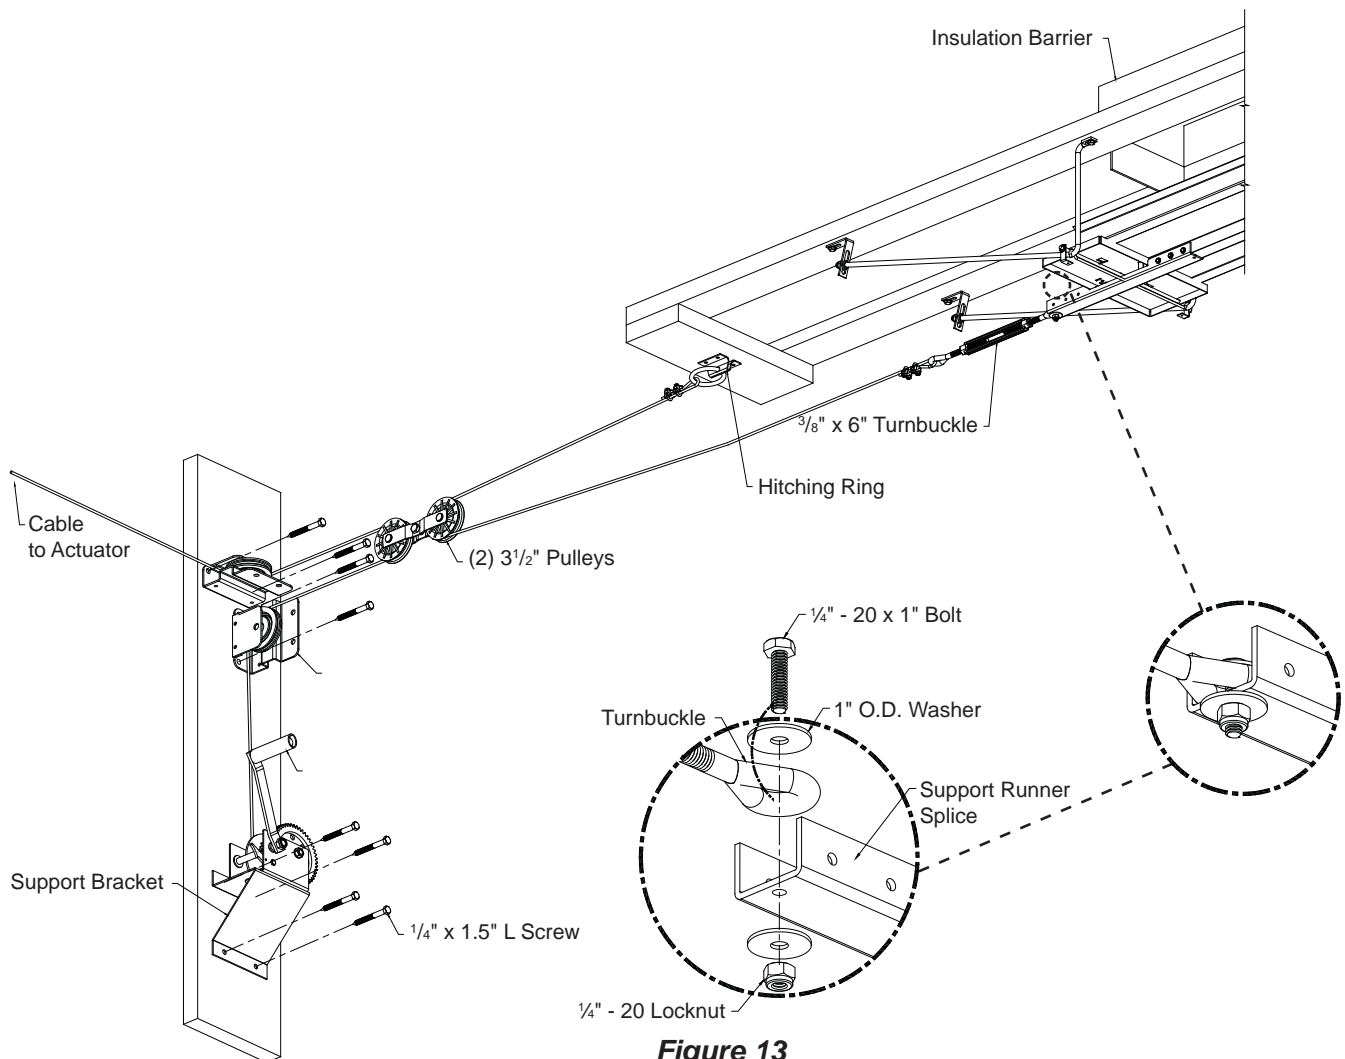

Figure 13
Install the hand winch and a bracketed pulley inline with the center of the baffle and mounted on 2x6 pieces which are securely screwed to the sidewall frame. Install the other bracketed pulley inline with the actuator cable. **See Figure 13.**
Install a hitching ring, inline with the center of the baffle, on a 2x6 piece screwed to the bottom end of the 2x4 slot frame. **See Figure 13.**
Attach one end of turnbuckle to the support runner splice with washers, nut and bolt as depicted in **Figure 13.**
Use $\frac{3}{16}$ " dia. cable and $\frac{3}{16}$ " cable clamps for connecting to the other end of the turnbuckle. Connect (2) $3\frac{1}{2}$ " pulleys together and route both $\frac{3}{16}$ " dia. cables per **Figure 13.** Attach the winch cable to the actuator cable. Attach the turnbuckle cable to the hitching ring, after routing cable through $3\frac{1}{2}$ " pulley.